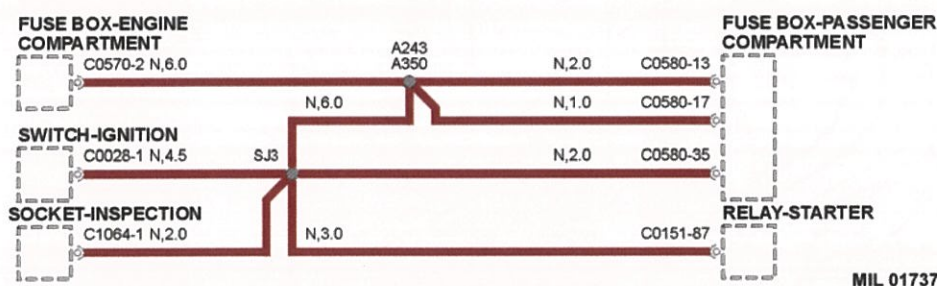

Fig 2 Power distribution
13.2 Wire length (Power and Earth distribution only) is the length of wire in millimetres. This can be used to locate internal harness splices; look for the shortest wire between the joint and connector. For example, it can be seen that C0570-2 is 730 mm from joint A350 (refer to Fig 2).